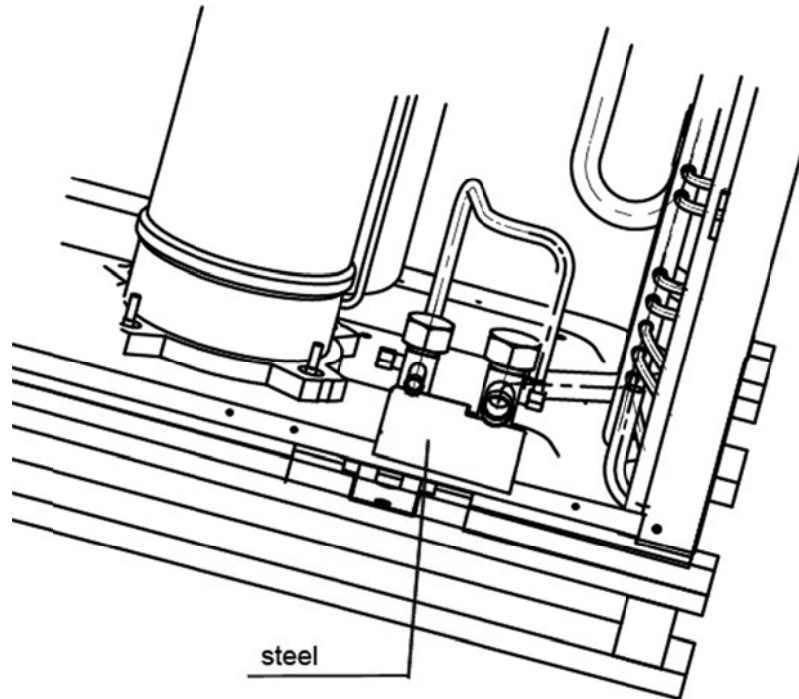
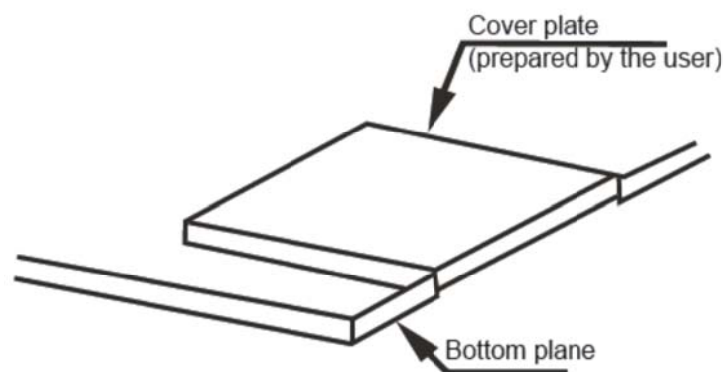

Fig 2-8
Fig 2-9
4.1 The refrigerant pipe adapter is located inside the outdoor unit. When the pipe is connected from the front side, the pipe can be let out through the right front board. (Fig 2-8 and Fig 2-9) So remove the left front board first.